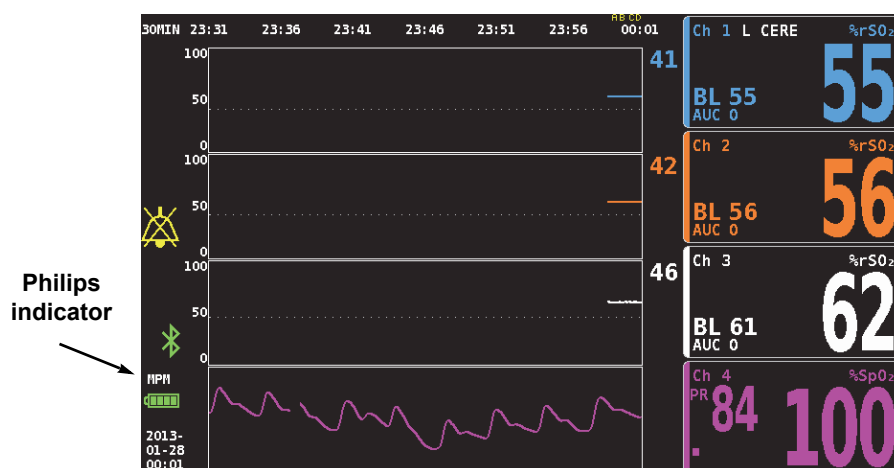

Figure 33. Philips Indicator on Model X-100M Display
7. Communication between the X-100M and Philips monitor should be established within approximately 45 seconds. Once established, MPM (multi-parameter mode) displays on the left side of the X-100M monitor (figure 33).
8. Communication between the X-100M and Philips monitor should be established within approximately 45 seconds. Once established, MPM (multi-parameter mode) displays on the left side of the X-100M monitor (figure 33).